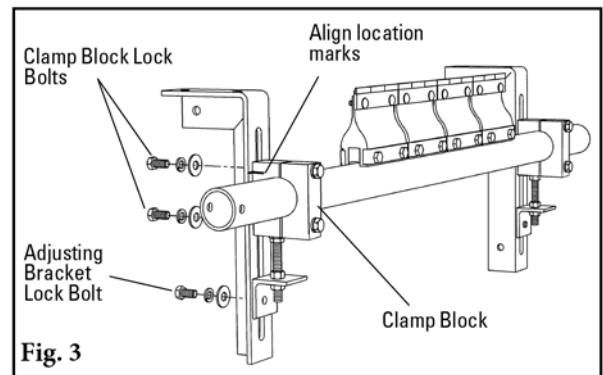

Fig. 3
3. **Set the tip angle.** With angle setup gauge provided, rotate the tips to the preset angle (Fig. 3) and lock the pole in place by tightening the clamp block bolts equally. **NOTE:** Make sure there is NO tip-to-belt contact while making this alignment. If contact occurs, lower the pole by loosening the clamp block lock bolts and raising the top adjusting bolt jam nut (Fig. 4). When tips are lowered and not touching the belt, repeat this step.
3. **Reinstall the pole.** Slide the pole back into position on the mounting brackets, aligning marks made on the bracket and the clamp block. Install the two adjusting bracket lock bolts and tighten. Install the four clamp block lock bolts finger tight (Fig. 3).